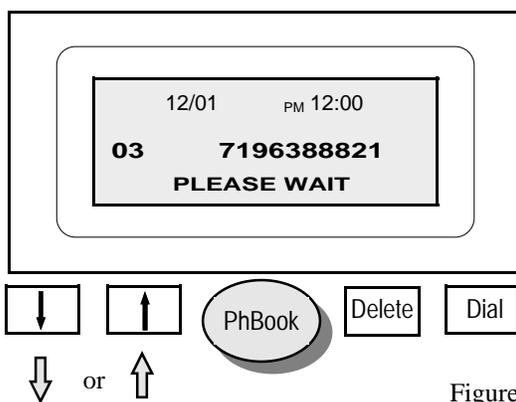

Figure 2
2. To place into phonebook memory, press the “PhBook” key once and the LCD will display the word “PLEASE WAIT”. The number is now placed into memory (figure 2).